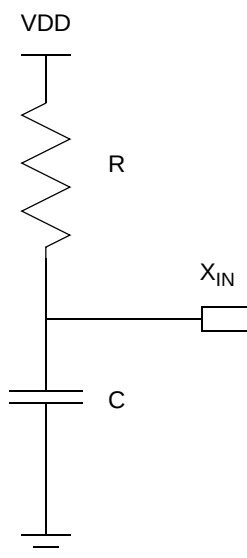

**Figure 28. Connecting the On-Chip Oscillator to an External RC Network**
Figure 28 displays a recommended configuration for connection with an external resistor-capacitor (RC) network.